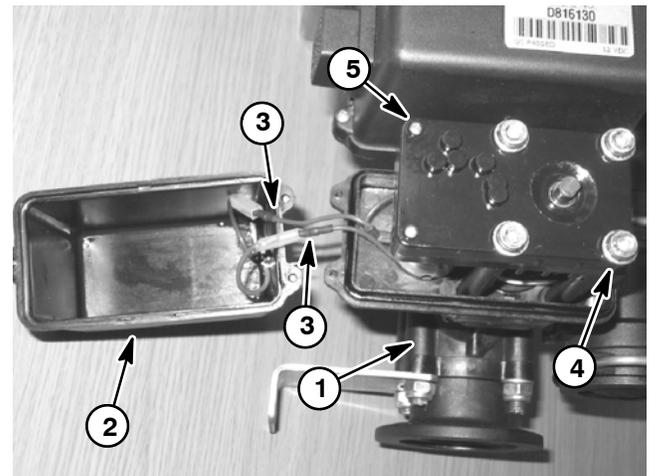

Figure 28.3
3. To remove valve motor cover from regulating valve motor (Fig. 28.3):
- A. Loosen three (3) screws that secure valve motor cover to valve motor assembly.
1. To install valve motor cover to regulating valve motor (Fig. 28.3):